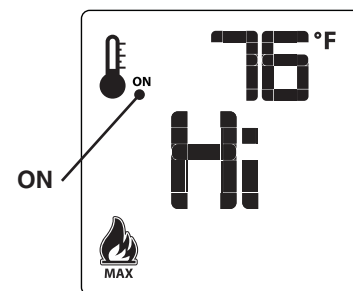

Fig. 43-4 Normal thermostat
- **Normal Thermostat (Fig. 43-4):** In this mode, the fireplace will remain functioning until the room temperature increases 1°F above the Set Point Temperature. Refer to the following SET TEMPERATURE section for details on adjusting the set point temperature. The fan will turn on 5 minutes after fireplace startup and will turn off 12½ minutes after the flames turn off. The flame height can be adjusted while the fireplace is functioning. The fan speed can be adjusted after 5 minutes of startup. The secondary burner and accent light can be turned ON/OFF at any time after startup.